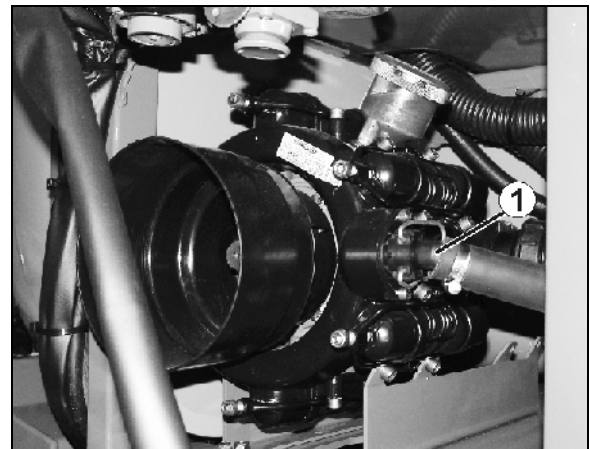

Fig. 123
10. Remove the pressure hose (Fig. 123/1) for the pump so that any remaining water can flow out of the pressure hose and VARIO switch tap on pressure side **B**.